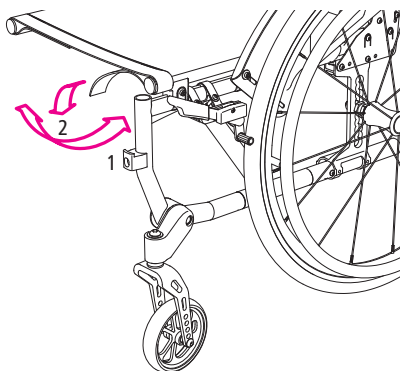

Fig. 10
1. First unfasten the Velcro strap underneath the front of the seat cushion (1, Fig. 10) and then the straps on the seat tubes on the side.
2. You can now tag the strap towards the back underneath the cover of the seat (2, Fig. 10). This reduces the seat height by 30 mm.